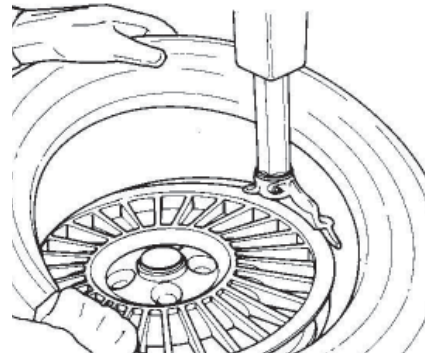

Fig. 4.2-3
B. Lock the rim to the turntable and rotate it so that the valve is at the 2 o'clock position. Place the tire to be mounted on the rim. Tilt the column forward in so that the mount/demount head is in the working position. (Fig.4.2-3) Position the lower bead on top of the mount/demount head and UNDER the mounting finger of the mount/demount head (Fig. 4.2-3). Turn the wheel clockwise (right pedal down) while simultaneously pushing the tire down into the drop center opposite to the mount/demount head. For this operation the 14 RPM Pedal Position can be used.